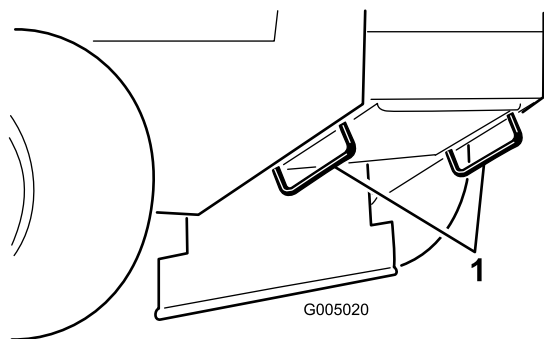

Figure 13
5. Use the metal tie down loops on the machine to securely fasten the machine to the trailer or truck with straps, chains, cable, or ropes (Figure 13).